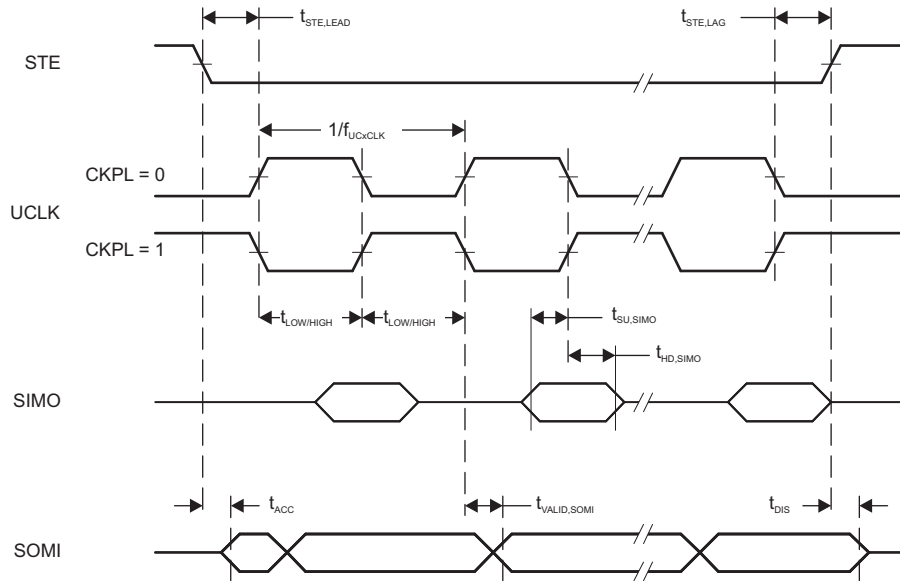
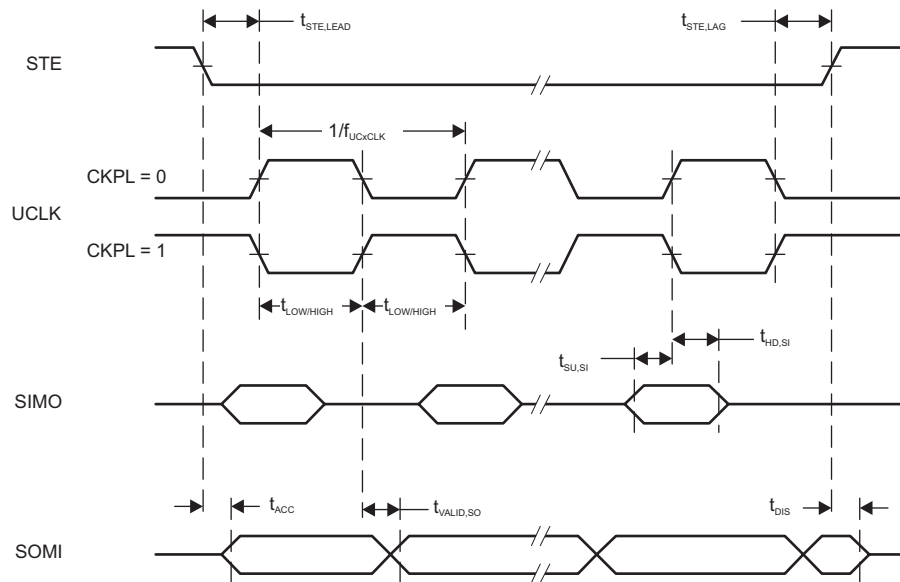

图 5-13. SPI Slave Mode, CKPH = 0
图 5-14. SPI Slave Mode, CKPH = 1
(2) Specifies the time to drive the next valid data to the SOMI output after the output changing UCLK clock edge. See the timing diagrams in 图 5-13 and 图 5-14.
(3) Specifies how long data on the SOMI output is valid after the output changing UCLK clock edge. See the timing diagrams in 图 5-13 and 图 5-14.